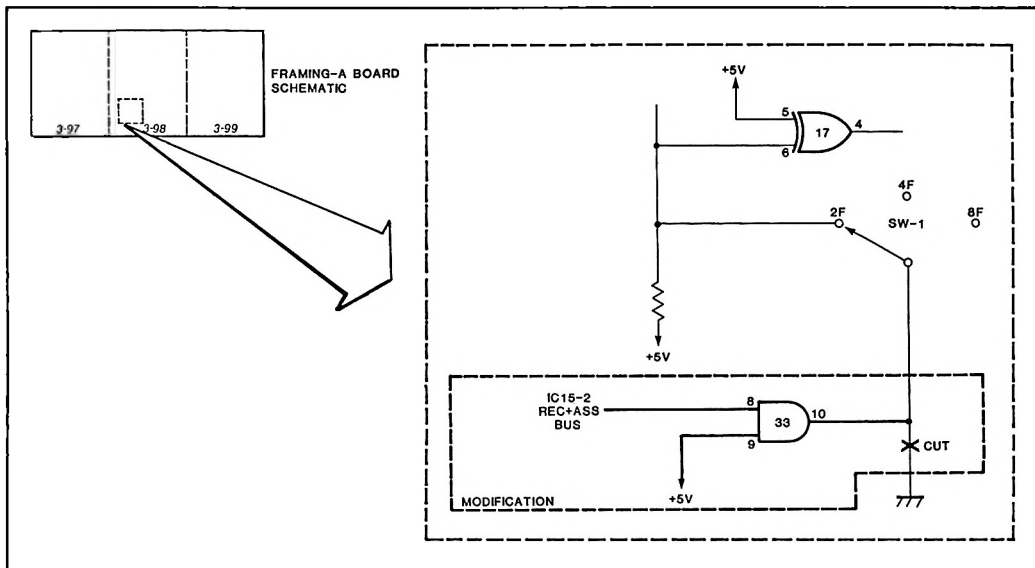

Figure 1
1. On foil side of Framing Board, add the following jumpers. (See Figures 1 and 2):